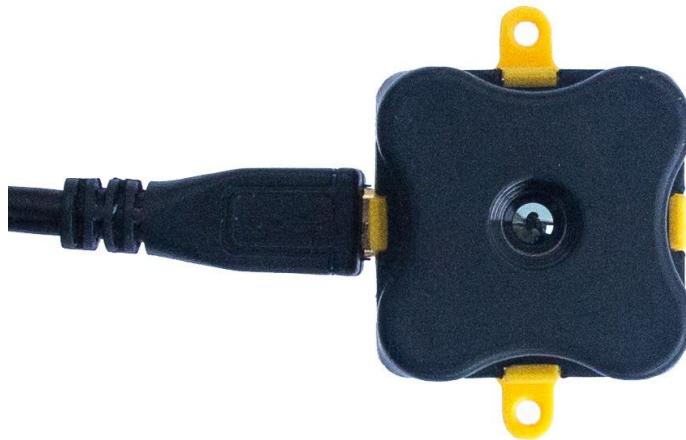

Figure 3. Module orientation for correct thermal image. Evo Thermal 33.
- To obtain a correctly positioned (not inverted or rotated) thermal image, please mount the sensor with the USB or UART connector pointing left (if facing sensor's lens). See Figure 3 for visual instructions. This also applies when hand-testing Evo Thermal via our graphical user interface (ref. Section 3.1.2).